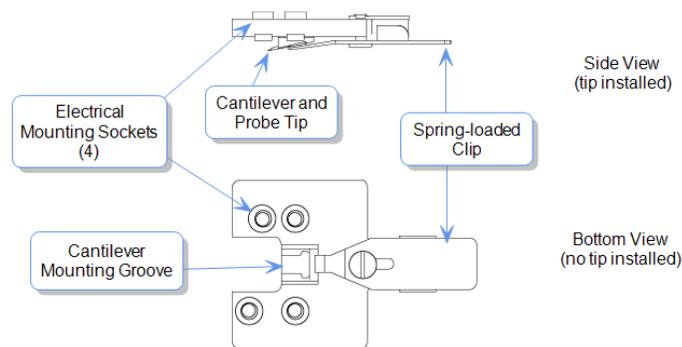

Figure 2. Tip Holder
7) Unlock the scanner head by carefully loosening the screw to the right of the head, Figure 2. One or two turns should be enough. There is no need to turn the screw all the way out. The scanner head should always be mounted on the dovetail rail unless you are loading the probe holder. If it is not, contact a GLA.